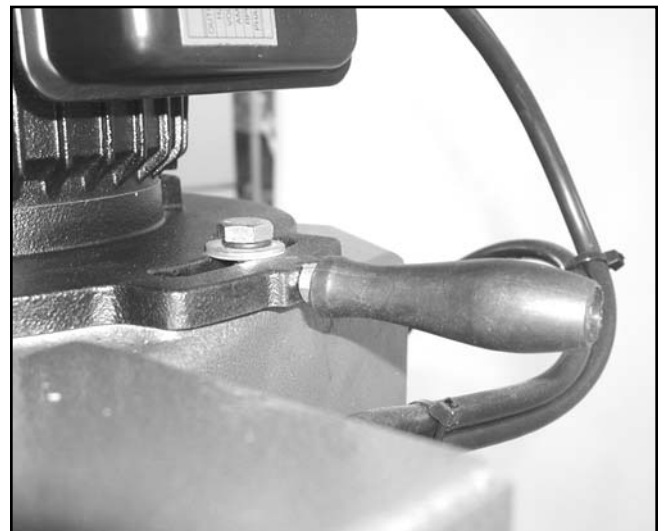

Figure 14. Belt adjustment handle.
2. Locate the handle on the motor base, and use it to pull the belt tight. A backwards pull tightens the belt as shown in **Figure 14**.